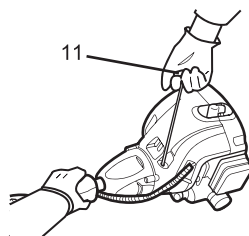

Fig. 12c
- > Hold the product stable and pull the recoil starter handle(11) slowly until you feel a definite resistance (starter engaged) and then give it a brisk, strong pull. Repeat until the engine starts. (**Note:** If the engine cannot start, pull the choke lever downward to "OPEN" position and repeat this step until the engine starts.) (Fig. 12c).
- > Hold the product stable and pull the recoil starter handle(11) slowly until you feel a definite resistance (starter engaged) and then give it a brisk, strong pull. Repeat until the engine starts. (Fig. 12c).